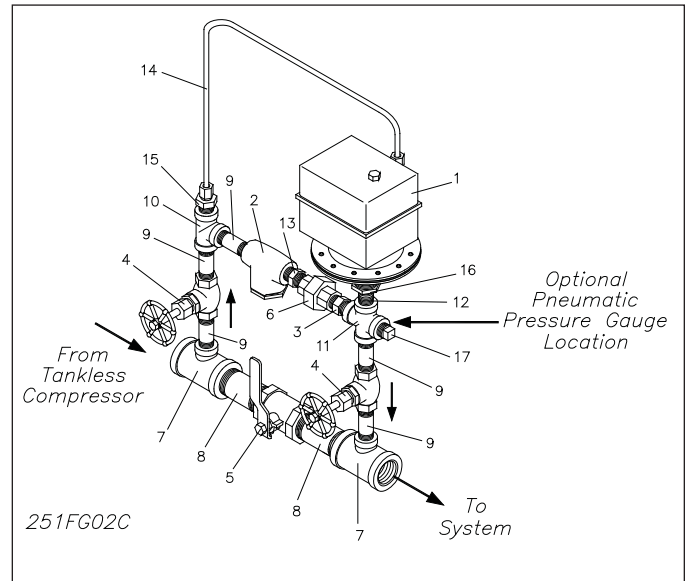

Figure 2
• **Models B-1 Pressure Maintenance Device (Refer to Figure 2)**
Basic functionality of components (refer to Figure 2): A drop in the sprinkler system's air pressure causes the contacts of the pressure switch (Item 1) to close, thereby activating the air compressor. When the pre-adjusted level of air pressure is restored, the pressure switch's contacts re-open, thereby deactivating the air compressor. The pressure switch (Item 1) is also equipped with an unloader valve that automatically bleeds off the air compressor's outlet pressure each time the contacts of the pressure switch open. This protects the air compressor's motor from overloading during start-up. Like the Model A-2 PMD, the Model B-1 has a strainer (Item 2) for contamination control and a check valve (Item 3) to prevent reverse water flow. The ball valve (Item 5) and globe valves (Item 4) are also identical in configuration and function as with the Model A-2 PMD. Likewise, the ball valve (Item 5) must be closed and the globe valves (Item 4) must be open for proper automatic operation
- a. Make sure the air flow through the Device is as shown by the arrows in Figures 2, 5-7 and 10.